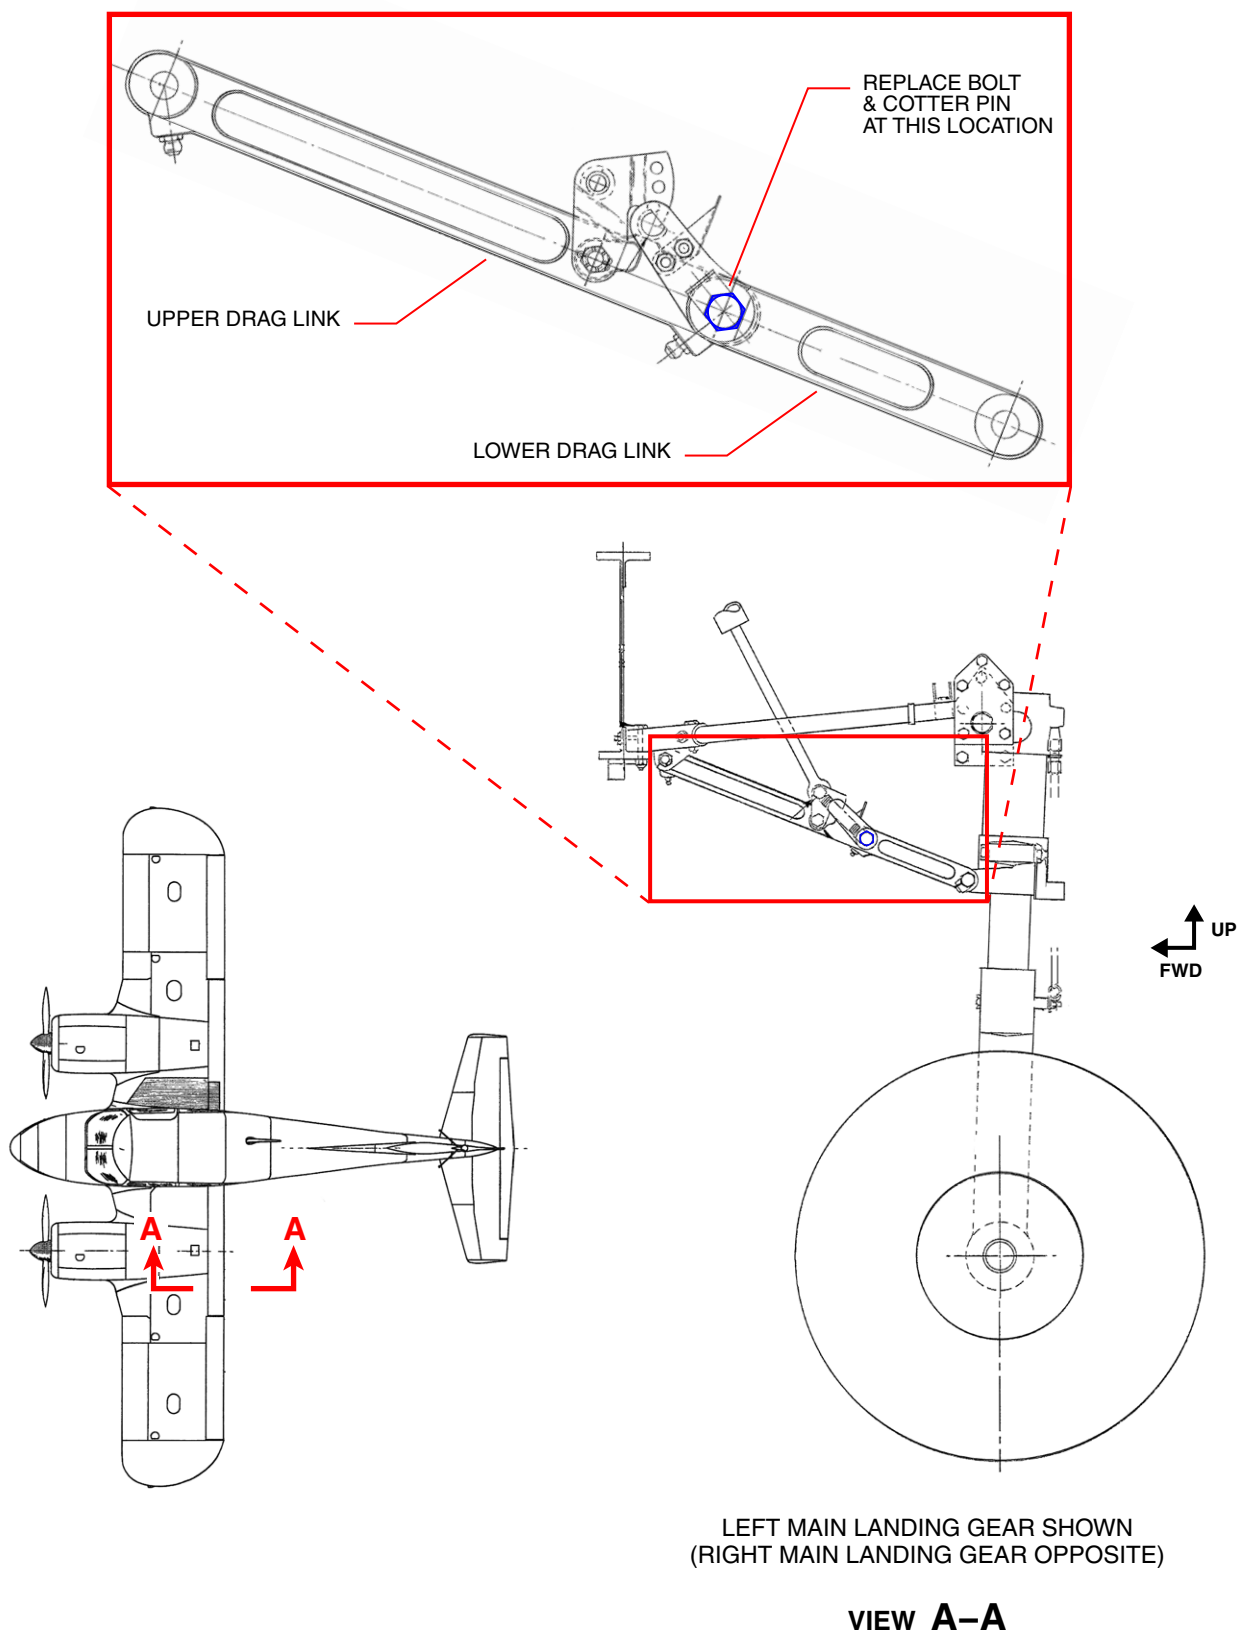

Figure 1
2. Disassemble the upper drag link from the lower drag link by removing the bolt, and associated hardware, which functions as a hinge pin for the two parts. See Figure 1.